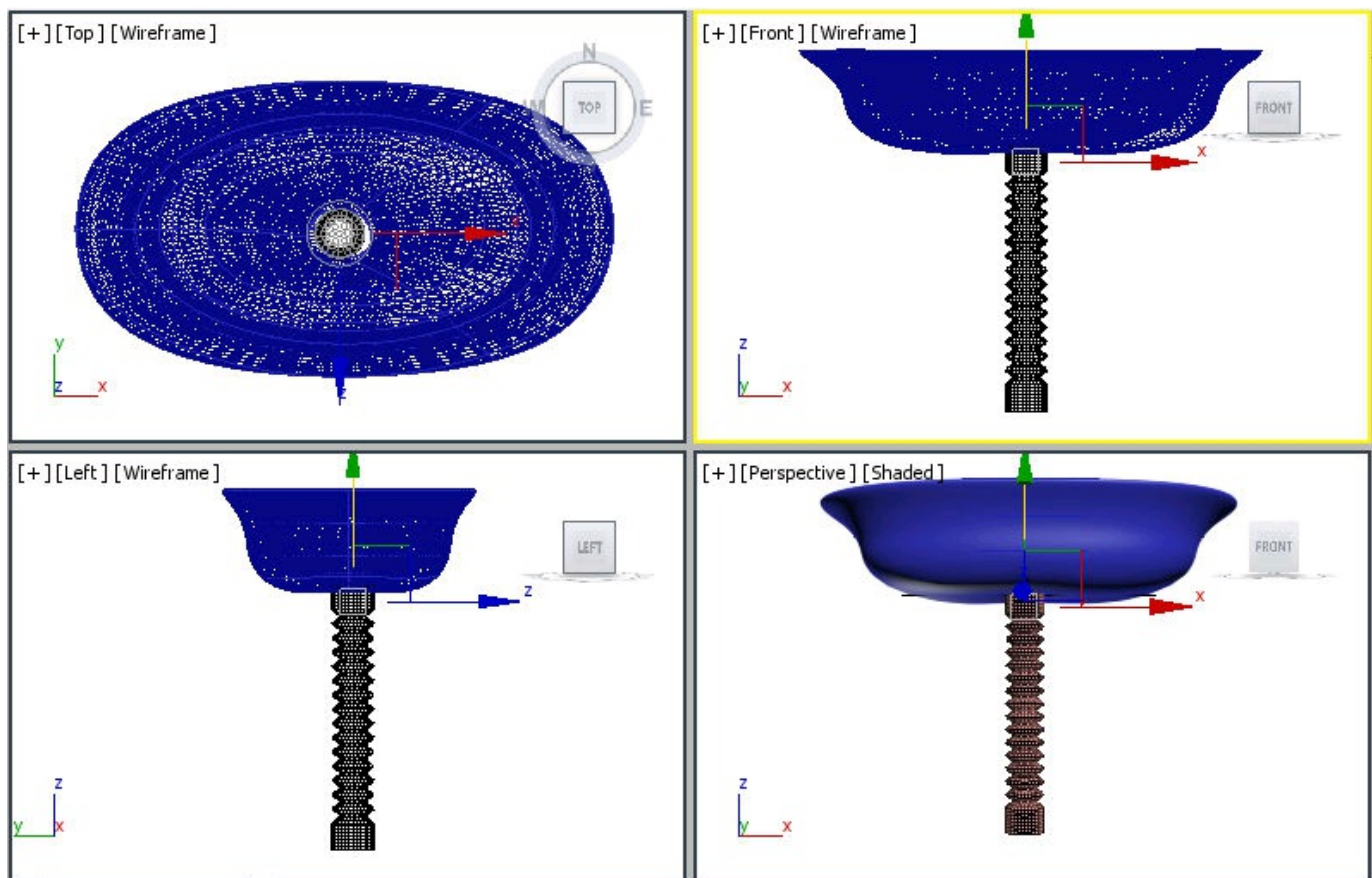

Figure 10-69 A duct created and aligned in viewports
12. Modify the name of the hose to *duct* and align it in viewports, as shown in Figure 10-69.